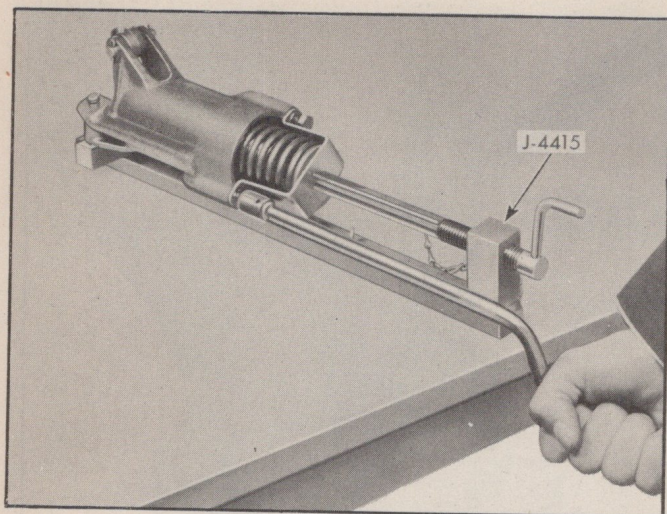

Fig. 286—Installing Rear Servo Spring Retainer
9. Place complete assembly into press or tool J-4415. Slowly compress springs while tightening mounting screws (Fig. 286).